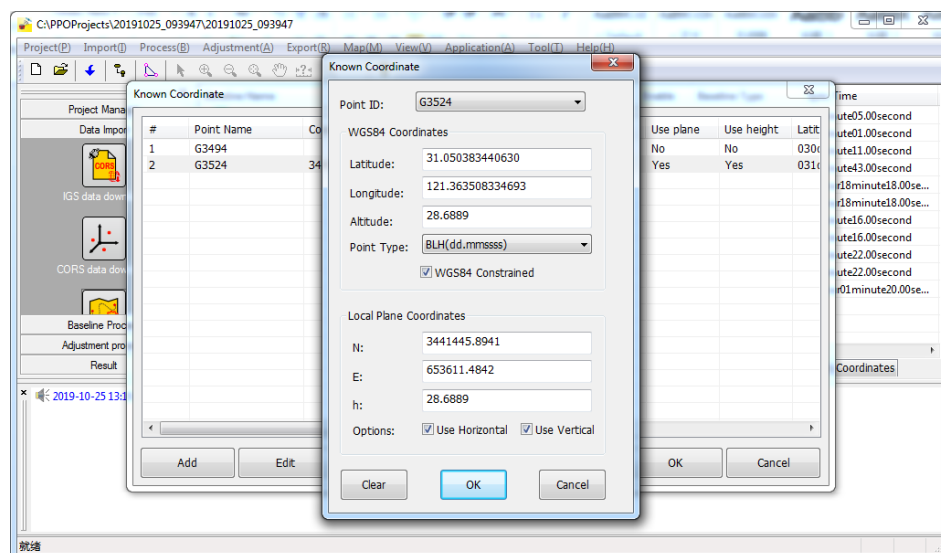

Figure 5-5
- 2) Click [Add] as shown in Figure 5-5. Input known coordinates and tick options as actually needed.